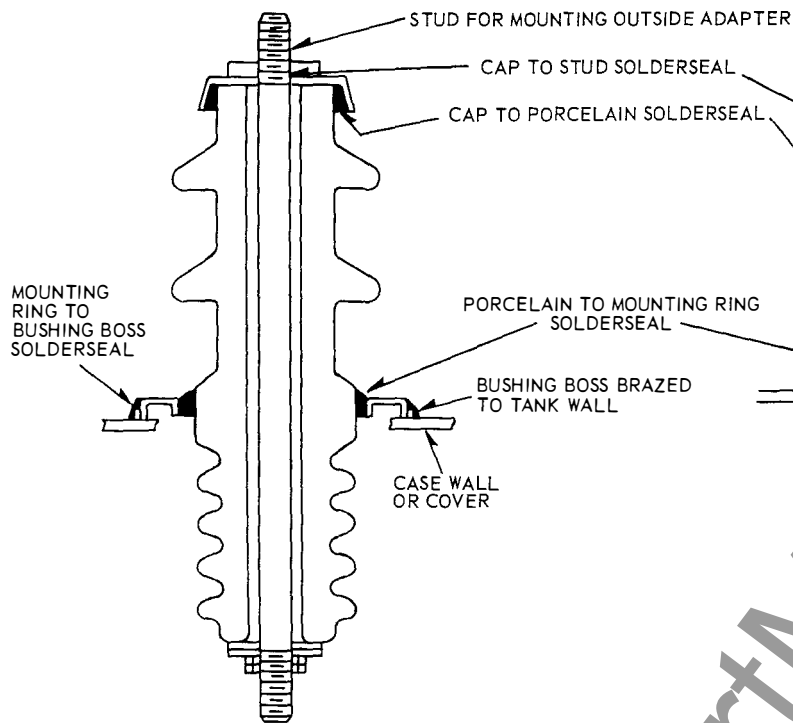

FIG. 1 - 15 KV BUSHING
Solderseal bushings of the types normally furnished on Westinghouse transformers are shown in the cross-section sketches, Figure 1 to 4 inclusive. If it becomes necessary to remove or replace a solderseal bushing, proceed as indicated for each figure.
**Fig. 1 to 3**
Since the principal bonding elements, lead and platinum, in soldersealed porcelains amalgamate under excessive heating, it is important to handle this type of porcelain with extreme care. We recommend the following procedure as being the safest means of soldering these porcelains to covers or tank walls for figures 1 to 4 inclusive.
4. For figure 1, place bushing or porcelain on mounting ring boss while parts are still hot and apply flux (c) freely to surfaces to be soldered.
Figs. 1 to 4—Solderseal Bushings